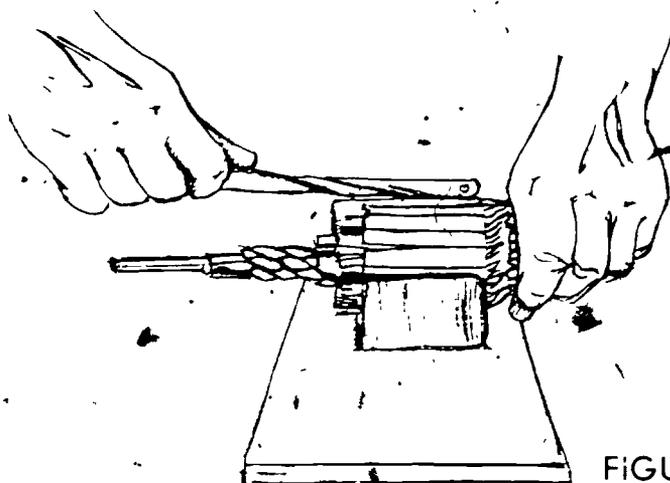

FIGURE 6
6. Test armature for shorts (Figure 6)